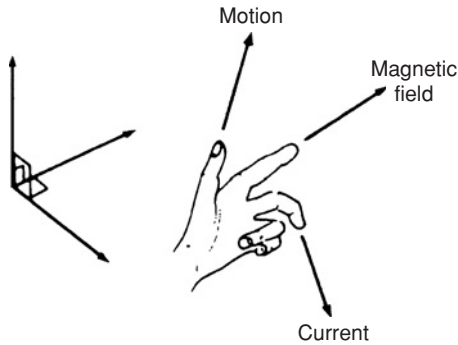

Figure 8.14
*Let the thumb, first finger and second finger of the left hand be extended such that they are all at right-angles to each other, (as shown in Fig. 8.14) If the first finger points in the direction of the magnetic field, the second finger points in the direction of the current, then the thumb will point in the direction of the motion of the conductor.*